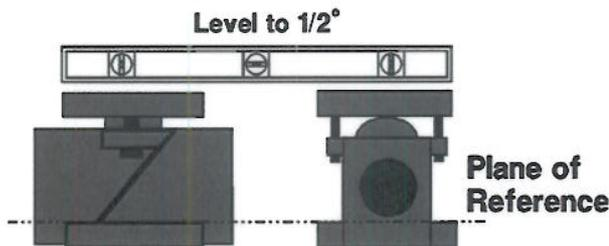

Figure 2-2. Leveling Diagram
(2) **Base Mounting Surface Preparation:** The base of the weigh module must be uniformly supported and level (Figure 2-2). On a structural steel support using through bolts, or a concrete pad using studs, the bolt spacing should be accurate to within 0.05 in. of the bolt pattern specified in the outline drawing dimensions. Grade 8.8 (or stronger) studs or bolts must be used. Do not weld the weigh modules in place.